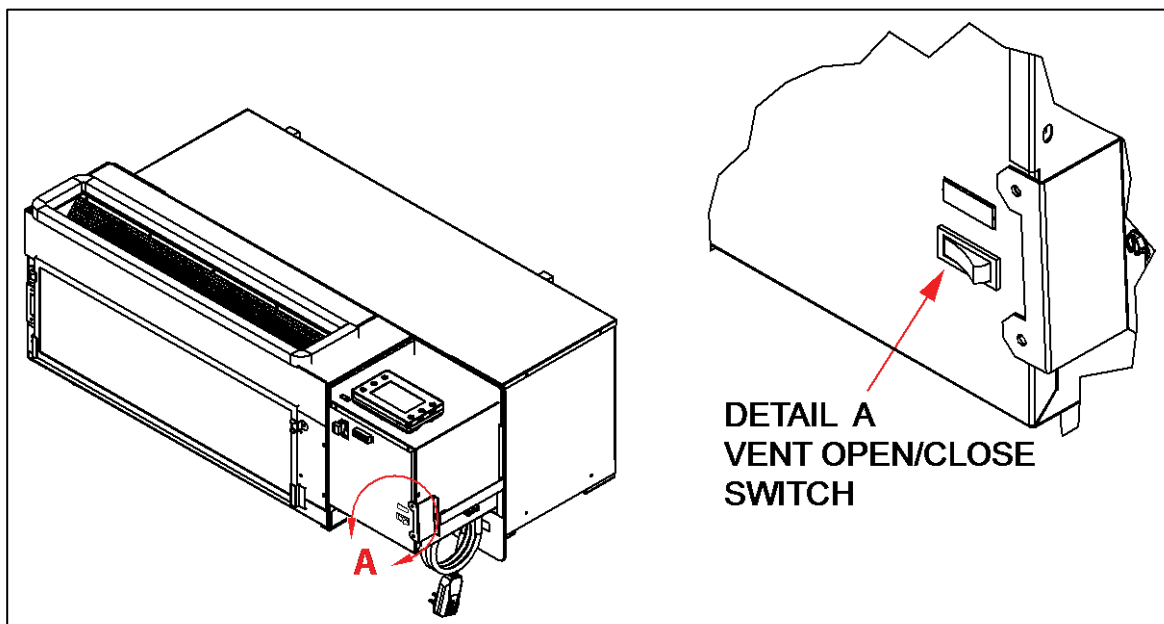

Figure 18. Fresh Air Vent Switch Location
2. Set the vent control rocker switch to either open or close the damper (see Figure 18).